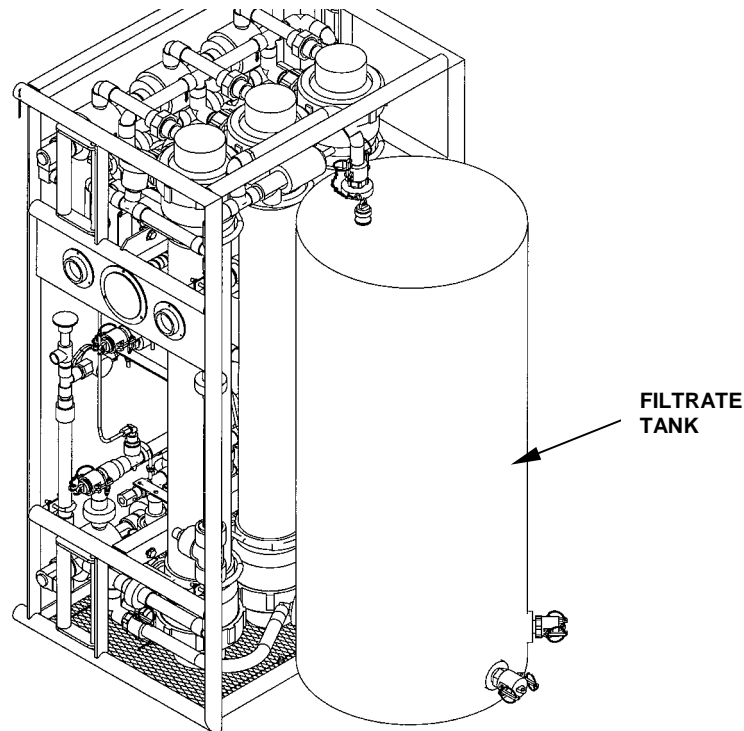

Figure 1. Fabric Filtrate Tank T2.
1. Make sure the fabric filtrate tank T2 is full. See Figure 1. Shut down the high-pressure pump according to procedure. See WP 0009 00.